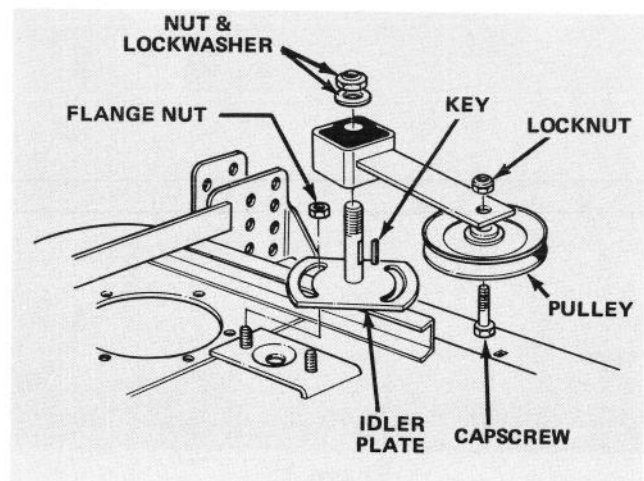

Figure 36
4. Remove large nut and flatwasher retaining idler arm on idler plate shaft (Fig. 36). Slide arm off shaft and account for the square key.
5. Remove capscrew and locknut securing idler pulley and arm together (Fig. 36).
5. Remove two flange nuts, holding slotted idler plate in place (Fig. 36).